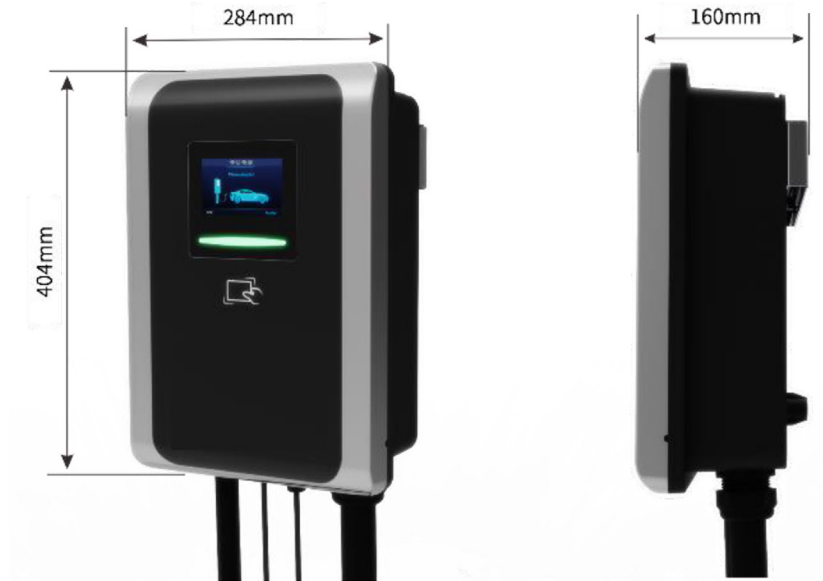

Fig. 4-1 The shape & dimensions of IM3C
- ▶ The shape & dimensions of IM3C shown as Fig. 4-1.